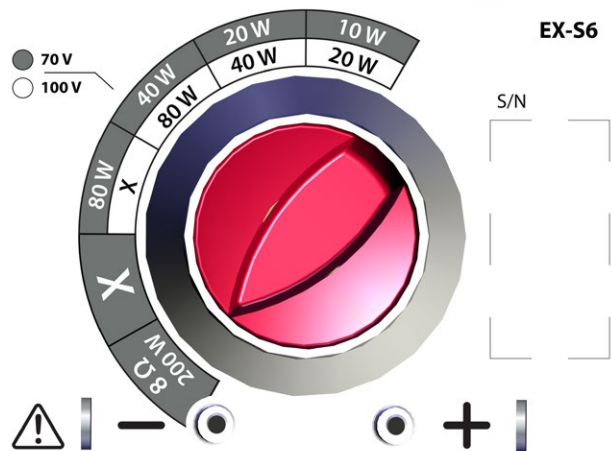

Figure 11. Rotate tap switch
- The tap switch should be adjusted before you attach the ClickPlug to the loudspeaker. Rotate the switch to the desired setting (Figure 11).